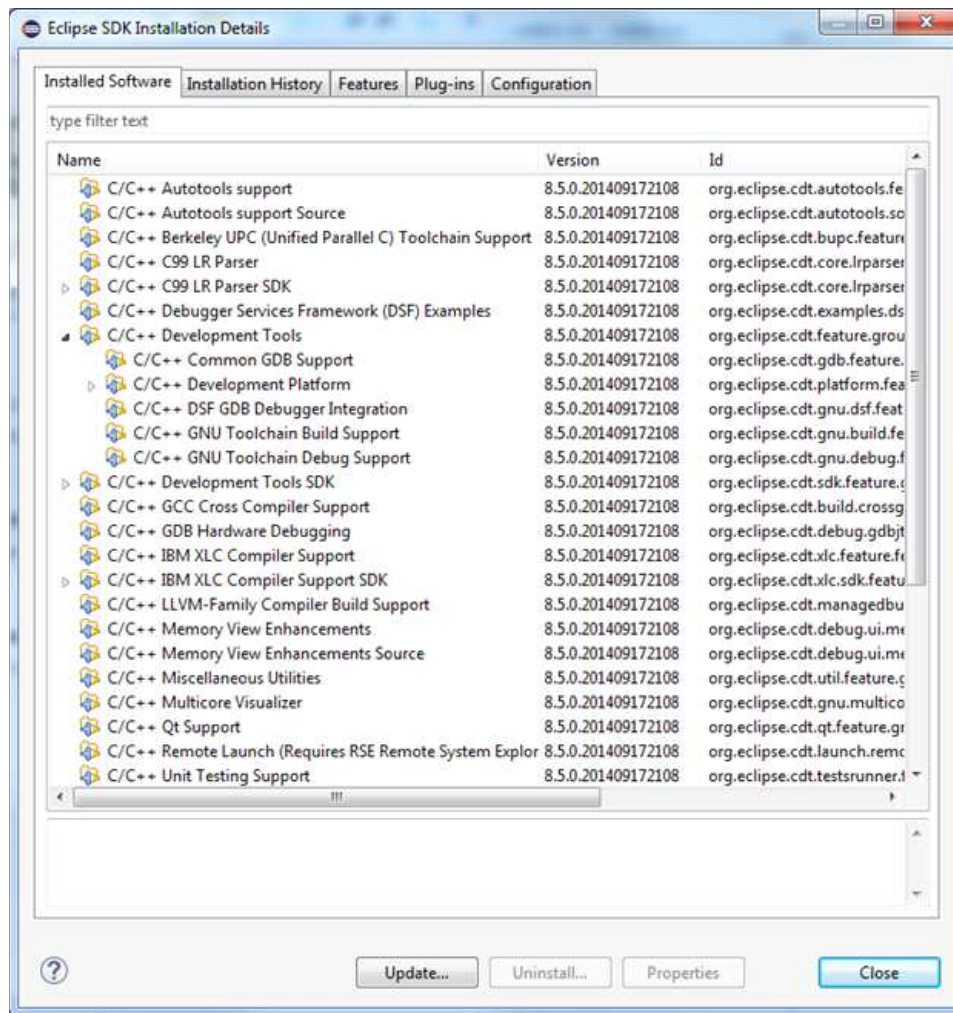

Figure 3. Installation Details
11. Verify that the CDT components are correctly installed. Navigate to Help → About Eclipse SDK and click 'Installation Details'. Make sure that the C/C++ Development Platform and the C/C++ GDB Hardware Debugging are both installed (see Figure 3).